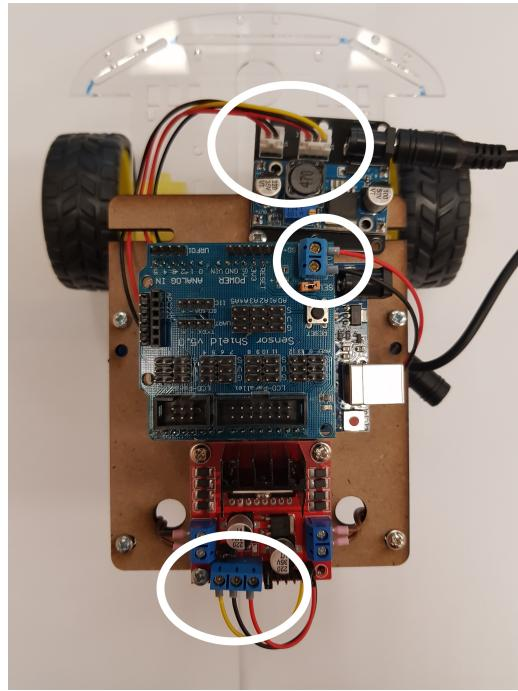

Figure 4: Power connection.
- 5) Your power connections should resemble Figure 4. **Ask a demonstrator to check the wiring before plugging in the battery or Arduino USB cable.**